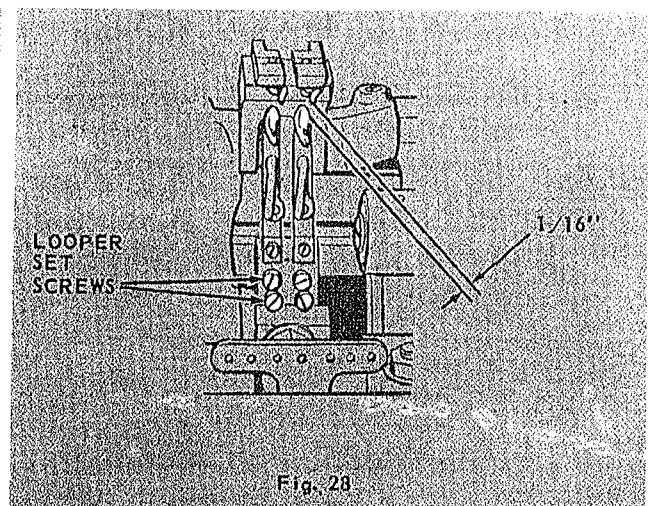

Fig. 28
Move looper to extreme forward position. Check clearance between heel of looper and loop deflector, Fig. 28, which should be approximately 1/16 inch. To adjust, loosen the two looper set screws. Turn looper to left or right until correct clearance is attained. Hold in position and securely tighten the two set screws.
**CAUTION:** On single and multiple needle machines, make certain that the point of each looper just clears the scarf of its respective needle. To adjust, with looper point directly opposite center of needle, loosen the two set screws, Fig. 28, and turn looper slightly to left or right. Then tighten the set screws.